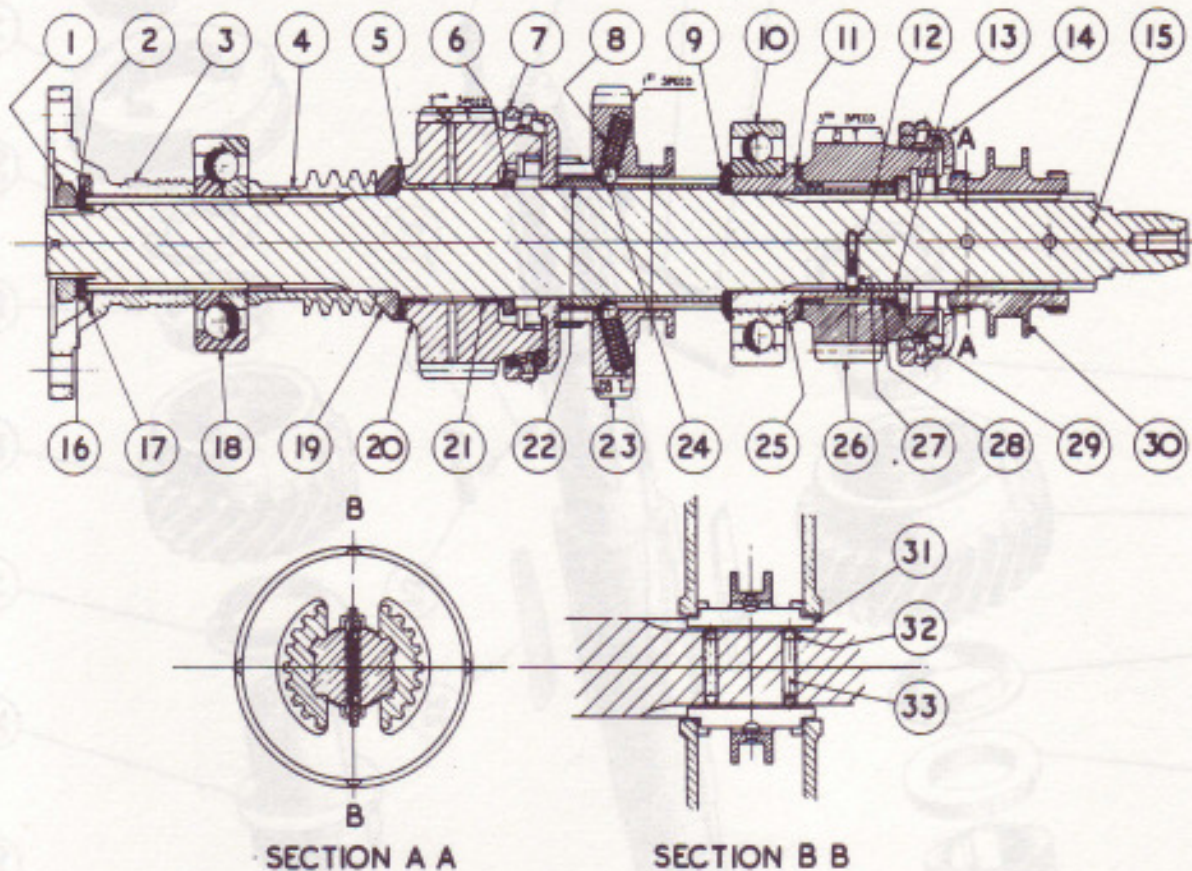
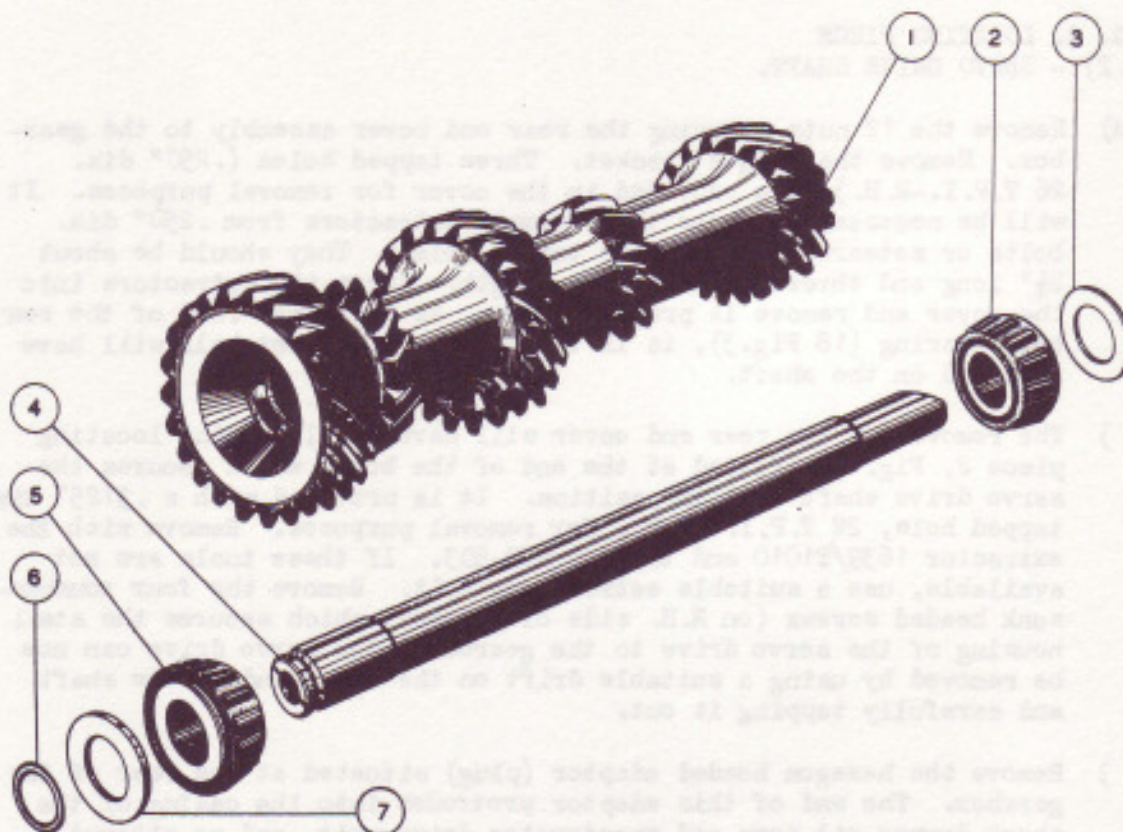

FIG. 3. SECTION - 3RD MOTION SHAFT. (EARLY TYPE)
FIG. 6. EXPLODED VIEW - 2ND MOTION SHAFT.
- (vii) Cause: Stiffness of the two sliding keys 31, Fig.3, in the grooved splines of early type 3rd motion shaft, causing drag when changing from 3rd to top speed or vice-versa.
- (xi) Cause: Too much end float in the 2nd speed driven gear 20, Fig.3, or in the 3rd speed driven gear 26, Fig.3, or both.
- (xiii) In the case of a bad whine from the gears, a new 2nd speed driven gear 20, Fig.3, may be necessary. A new 2nd motion shaft cluster 1, Fig.6, may also be needed, but should only be fitted as a last resort as it may affect the silence of the other gears and would necessitate the fitting of a new 1st motion shaft.
Unevenness of gear noise, particularly on the over-run may be the result of wear of the bushes 5, and 21, Fig. 3, which will cause the gear to tilt and result in faulty bedding of the gears. See paragraph 4, Sub-paragraph (ix).
- (xiv) In the case of a bad whine from the gears, a new 3rd speed driven gear 26, Fig. 3, may be necessary. A new 2nd motion shaft cluster 1, Fig. 6, may also be needed, but again should only be fitted as a last resort, as it may effect the silence of the other gears, and would necessitate the fitting of a new 1st motion shaft.
Unevenness of gear noise, particularly on the over-run may be the result of wear of the bushes 11 and 28, Fig. 3, which will cause the gear to tilt and result in faulty bedding of the teeth. See paragraph 4, Sub-paragraph (ix).
(vi) Temporarily fit a Jubilee clip to the front end of the 3rd motion shaft, i.e. against the sliding piece (30 Fig.3) so as to keep the parts at the front end in position during the removal of the shaft.
- (vii) Remove the nut 1, Fig.3, (which has a R.H.Thread) from the rear end of the 3rd motion shaft, using the box spanner, 1641/T1004 and the key STD-504.
- (viii) Remove the 12 nuts securing the rear end cover assembly to the gearbox. Remove the torque bracket. Three tapped holes (.250" dia. 26 T.P.I.-R.H.), are provided in the cover for removal purposes. It will be necessary to make three simple extractors from .250" dia. bolts or setscrews to suit the tapped holes. They should be about 2 1/4" long and threaded their full length. Screw the extractors into the cover and remove it progressively. As the inner race of the rear ball bearing (18 Fig.3), is in two halves, the front half will have remained on the shaft.
- (xi) The next operation is to remove the 2nd motion shaft (1, Fig.6) as follows:-
- b) Screw the extractor, 1639/T1011, into the front end of the bearing shaft (4), and with the key STD-503, withdraw the bearing shaft from the gearbox. The tapped hole in the shaft is .375" dia. 20 T.P.I. - R.H. If tools are not available, use a suitable bolt or setscrew.
- c) Lift or lever the 2nd motion shaft out of position and collect the washers, 3 and 7, Fig. 6.
- (xiv) Secure the extractor 1639/T1008 to the front end of the gearbox and screw the threaded end of the spindle into the nose of the 3rd motion shaft. Place the circular guide sleeve of the tool into the rear end bore of the gearbox (with recess in sleeve facing inwards). Turn handle to push the shaft rearwards until the central ball bearing 10, Fig.3, is just clear of its housing in the gearbox. Remove the tool and manoeuvre the two operating forks from the shaft assembly and finally withdraw the shaft from the box and remove the two forks. If the tool is not available, use a suitable drift on the front end of the shaft and carefully drive it towards the rear until the ball bearing (10) is just clear of its housing. It is essential when removing the shaft by this method, that the rear end of it should be held in line to prevent cross binding of the central bearing. Temporarily fit a Jubilee clip to the rear end of the 3rd motion shaft.
- (ii) Place the rear end of the shaft (horizontally) in a vice. With the fingers, press down the front end of the two spring loaded keys, 31 Fig. 3, at the front of the shaft, and slide the sliding piece (30), forwards for about one inch. Again with the fingers, press down the rear end of the keys, and while holding them, remove the sliding piece from the shaft. Carefully release keys and collect the four balls (32) and the two springs (33), taking care not to lose them. Remove the cone (14).
- (i ) On chassis prior to (approximately) B-159-DZ, the gearbox 3rd motion shaft 15 Fig. 3 (Part No: RG-193) carried two grooved keyway splines at the front end. It is essential that these two splines should be subjected to a crack test as it has been discovered that cracks have occurred near to or where the two front cones contact the grooved splines. The area of contact on the side of these two splines will usually be found to be bright.